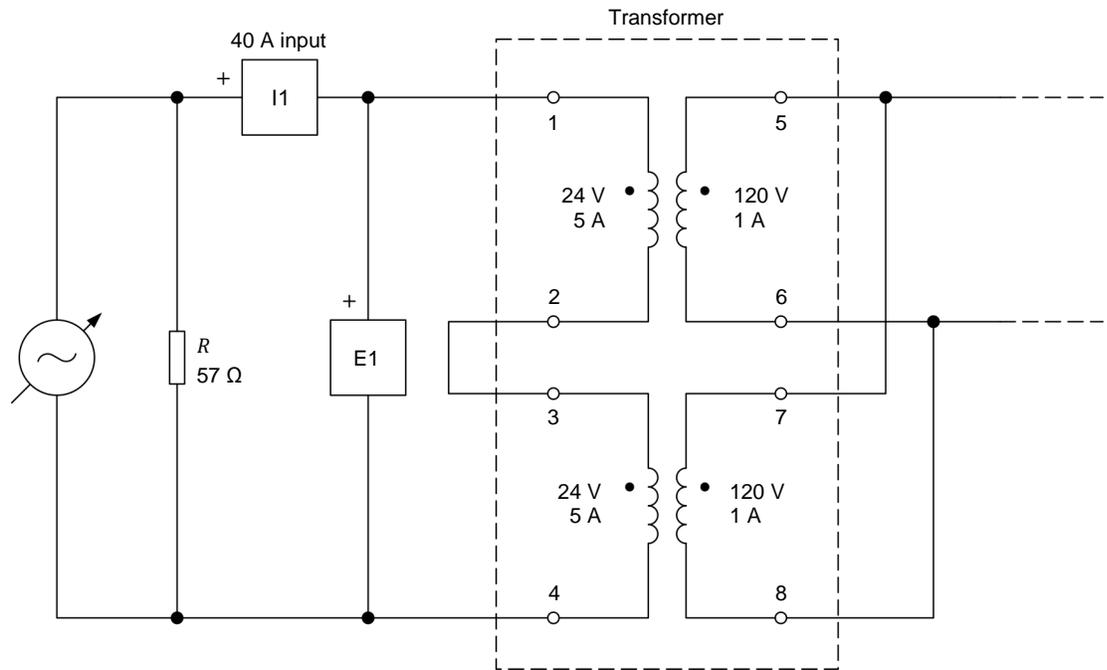

Figure 33. Step-up transformer without load.
8. Connect the equipment as shown in Figure 33. In this circuit, the two 24 V primary windings of the **Transformer** module are connected in series to form a primary winding rated 48 V and 5 A. Also, the two 120 V secondary windings are connected in parallel to form a secondary winding rated 120 V and 2 A. These ratings are for an operating frequency of either 50 Hz or 60 Hz.
The resistive load in the circuit of Figure 33 is used to improve the appearance of the voltage waveforms. As the resistive load is connected in parallel to the ac power source, it has no effect on the measured voltages.